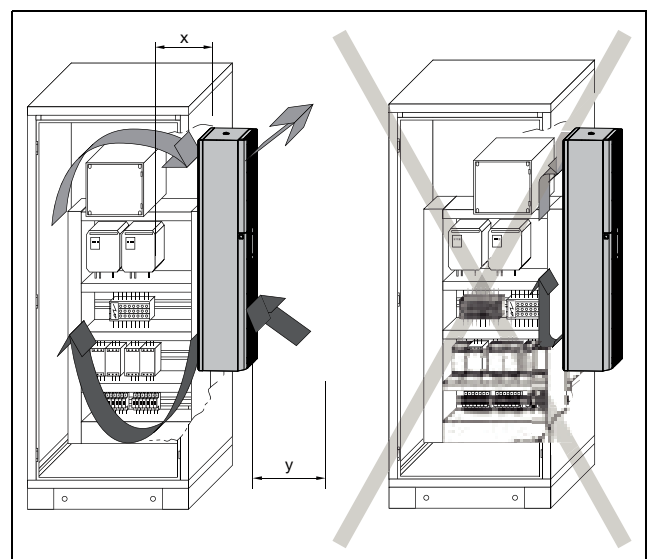

Fig. 7: Air circulation inside the enclosure
- The site for the enclosure, and hence the positioning of the cooling unit, must be carefully selected so as to ensure good ventilation (distance between cooling units at least 200 mm, distance from wall see distance "y" in fig. 7 or tab. 2).
- Measure the distance "x" (fig. 7) from electronic components and other installed equipment inside the enclosure so that the required air circulation is not obstructed.